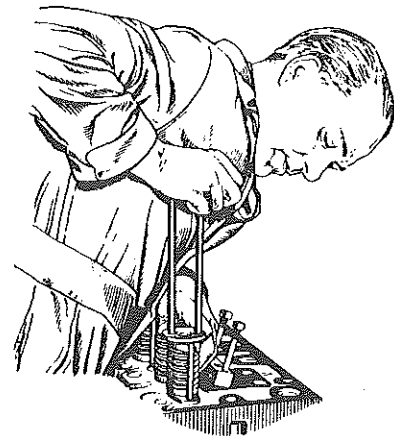

Fig. 8 REMOVING VALVE SPRINGS
4. Decompress each valve spring sufficiently to remove the split collets. Fig. 8 shows a type of tool which can be used for this operation, but any suitable decompressing tool may be used.